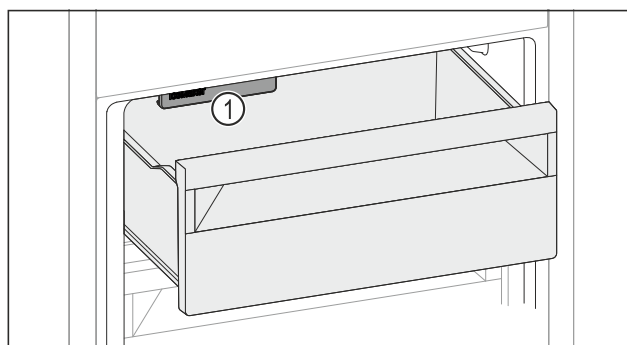

Fig. 227
- Watch out for the IceMaker Fig. 227 (1).